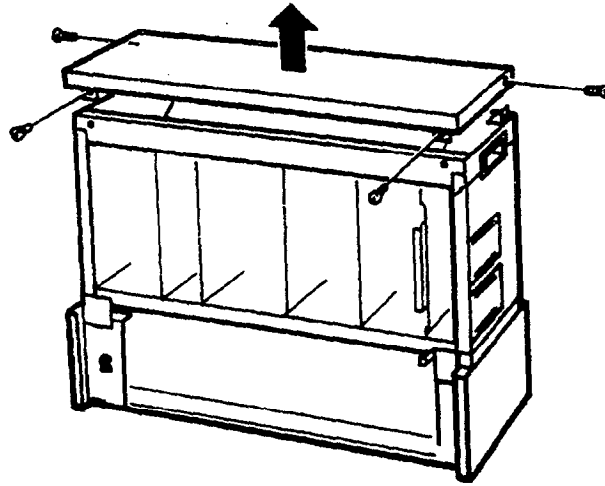

Figure 3-50 Removing the Level II Advanced Basic KSU Top Panel
1. Remove the top panel on the Level II Advanced Basic KSU. Refer to Figure 3-50 - Removing the Level II Advanced Basic KSU Top Panel.